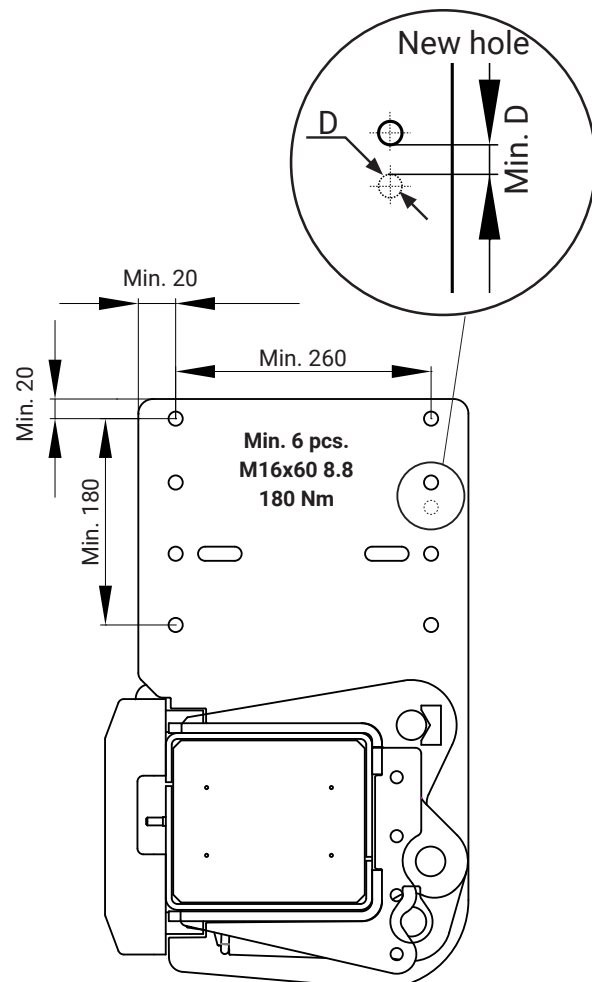

Figure 23. Install the chassis bracket with at least six M16x60 8.8 bolts
9. When mounting on frame without pre-drilled holes, first install using a screw in the grooved bracket holes. Mark the centre of the vehicle frame in the grooved bracket holes, then drill $\varnothing 16$ mm holes in the frame; see Figure 23